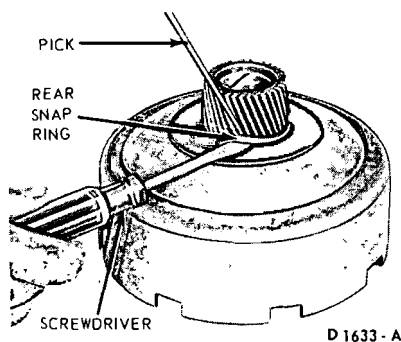

FIG. 62—Removing or Installing Sun Gear Rear Snap Ring
1. Remove the rear snap ring from the sun gear as shown in Fig. 62.